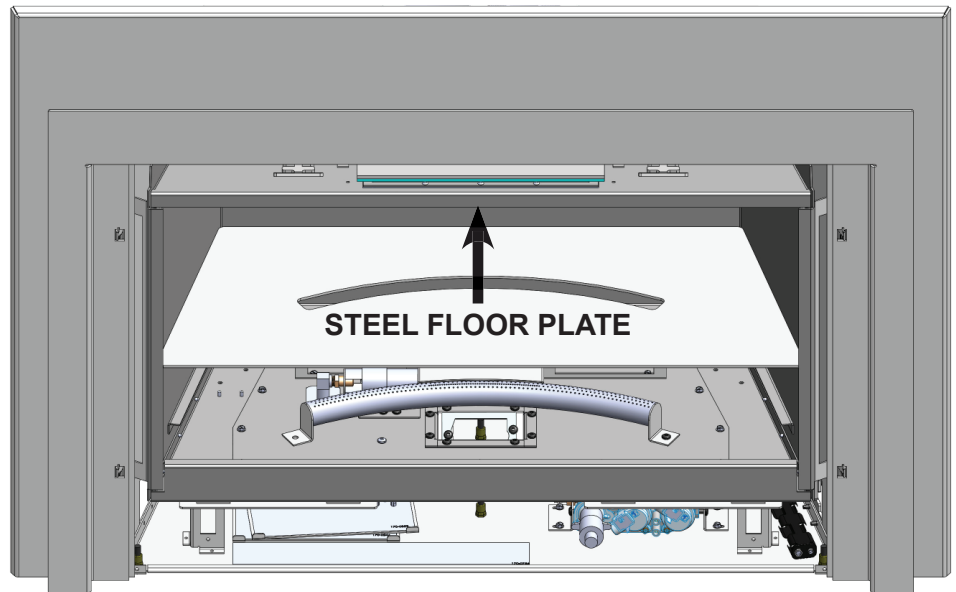

Fig.1
3. Remove the steel floor plate and set it aside. (Fig. 1)